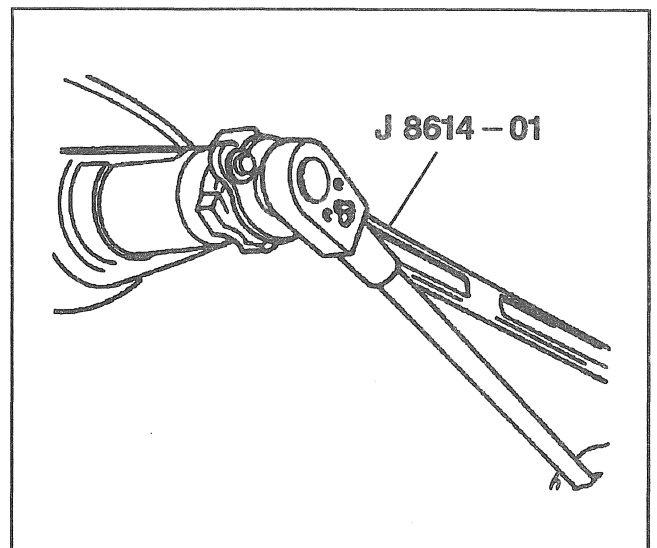

Figure 10—Removing the Drive Pinion Nut
17. Pinion nut (12) and washer (11) using J 8614-01 to hold the pinion (Figure 10).